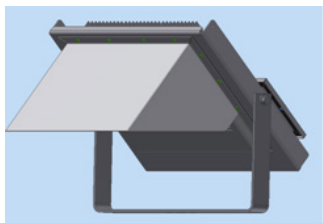

Figure. 3
1. Remove the top 10 screws from the lens frame. See Figure 3. The KFL2H will use two reflectors.